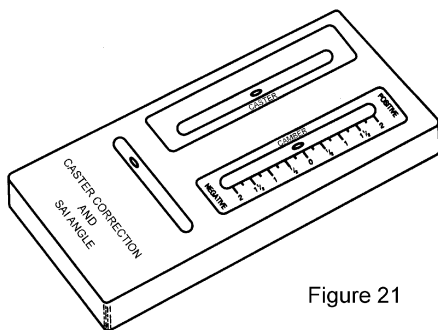

Figure 21
- 6) Read Caster at the center of the bubble on the Caster Scale. The spirit level for Caster is located on the left side of the gauge. See the figure to the right. (See Fig. 21)